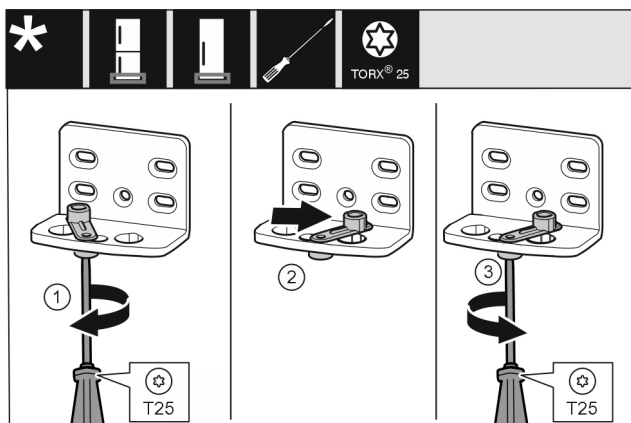

Fig. 16
- ▶ Use screwdriver to loosen the screw Fig. 16 (1).
- ▶ Lift the door closing aid Fig. 16 (2) and turn 90° clockwise in the hole.
- ▶ Tighten screw Fig. 16 (3) with screwdriver.